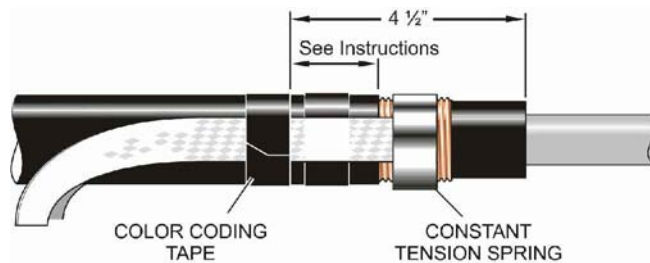

FIGURE 3
STEP 14: WRAP A PIECE OF COLOR CODING TAPE AROUND THE CABLE AND OVER THE TWO TAILS OF THE GROUND BRAID EXACTLY 4-1/2" FROM THE END OF THE SEMI-CONDUCTIVE SHIELD. THIS WOULD ALSO MEAN THE TAPE IS 2" FROM THE END OF THE JACKET ON 1/0 CABLES AND 1-1/2" FROM THE END OF THE JACKET FOR ALL OTHER CABLE SIZES. SEE FIGURE 3.